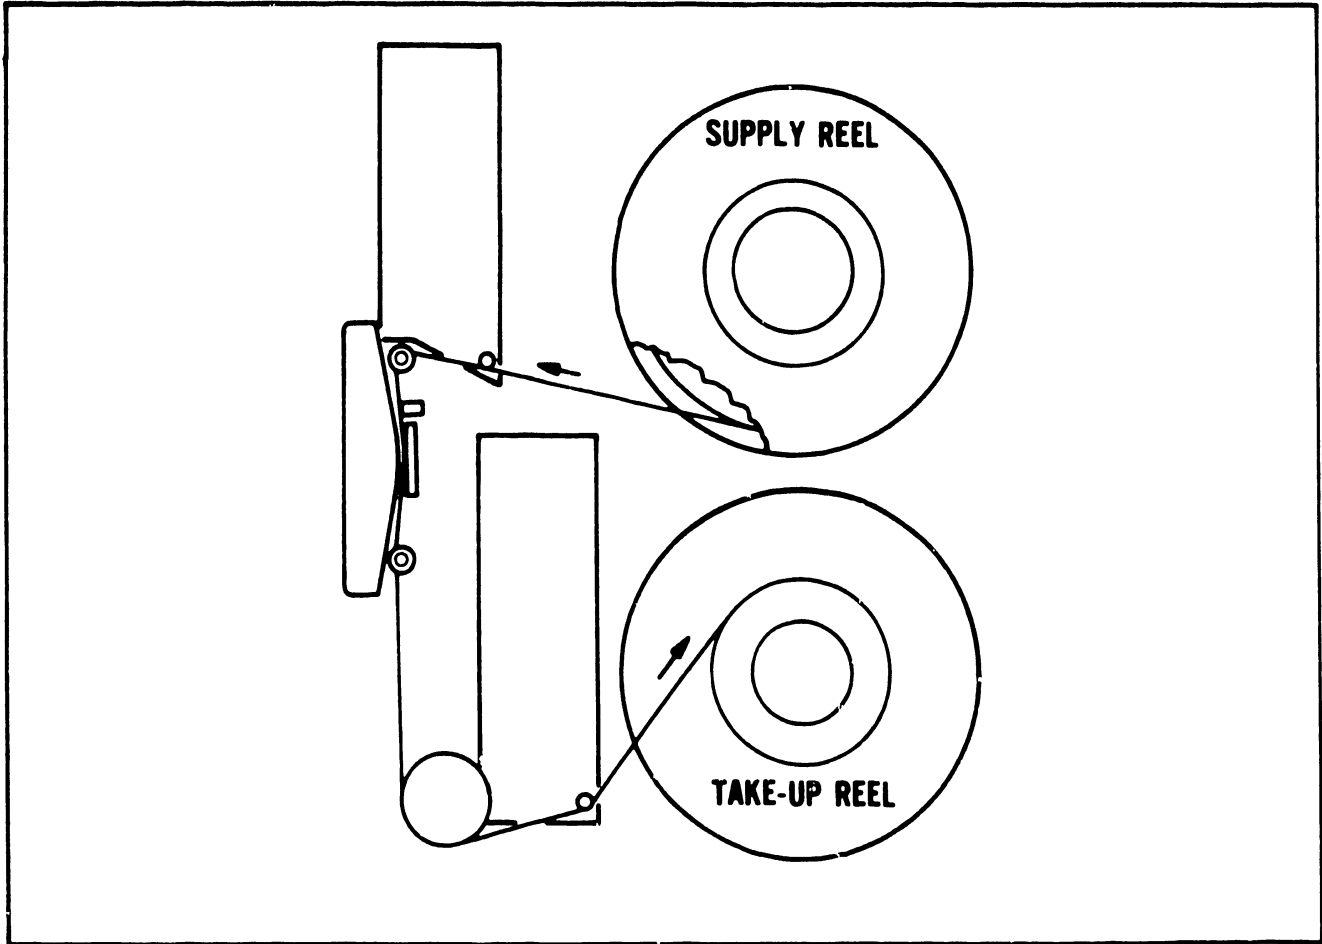

FIGURE 4-85 TAPE THREADING DIAGRAM
- A. Raise the latch of the quick-release hub and place the tape file reel on the supply hub (Figure 4-85) with the write-enable ring side next to the transport deck.
- C. Thread the tape along the path as shown by the threading diagram (Figure 4-85).
1. Power off the tape drive. Check both tape reels, supply and take-up (Figure 4-85), to ensure that they are firmly locked on their respective hubs, with each hub latch locked.